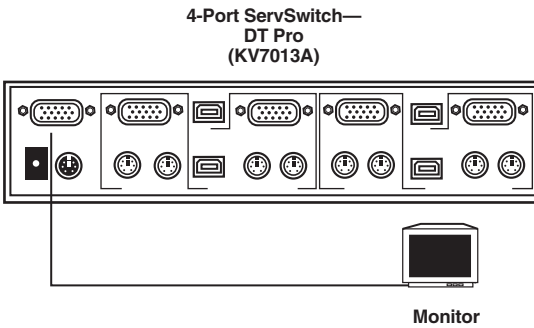

Figure 3-2. Console connections.
3. Connect the HD15 VGA male connector from your monitor to the console VGA port on the back of the ServSwitch. See Figure 3-2.